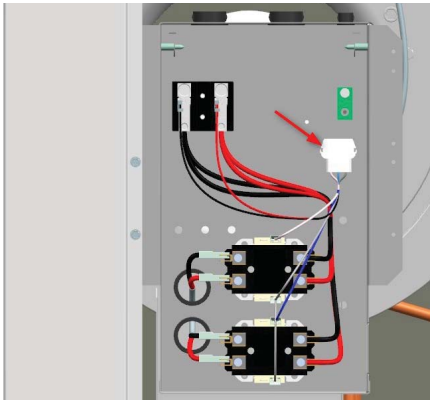

Figure 30
1. On the EH Control Box, locate the loose J39 connector (figure 30).